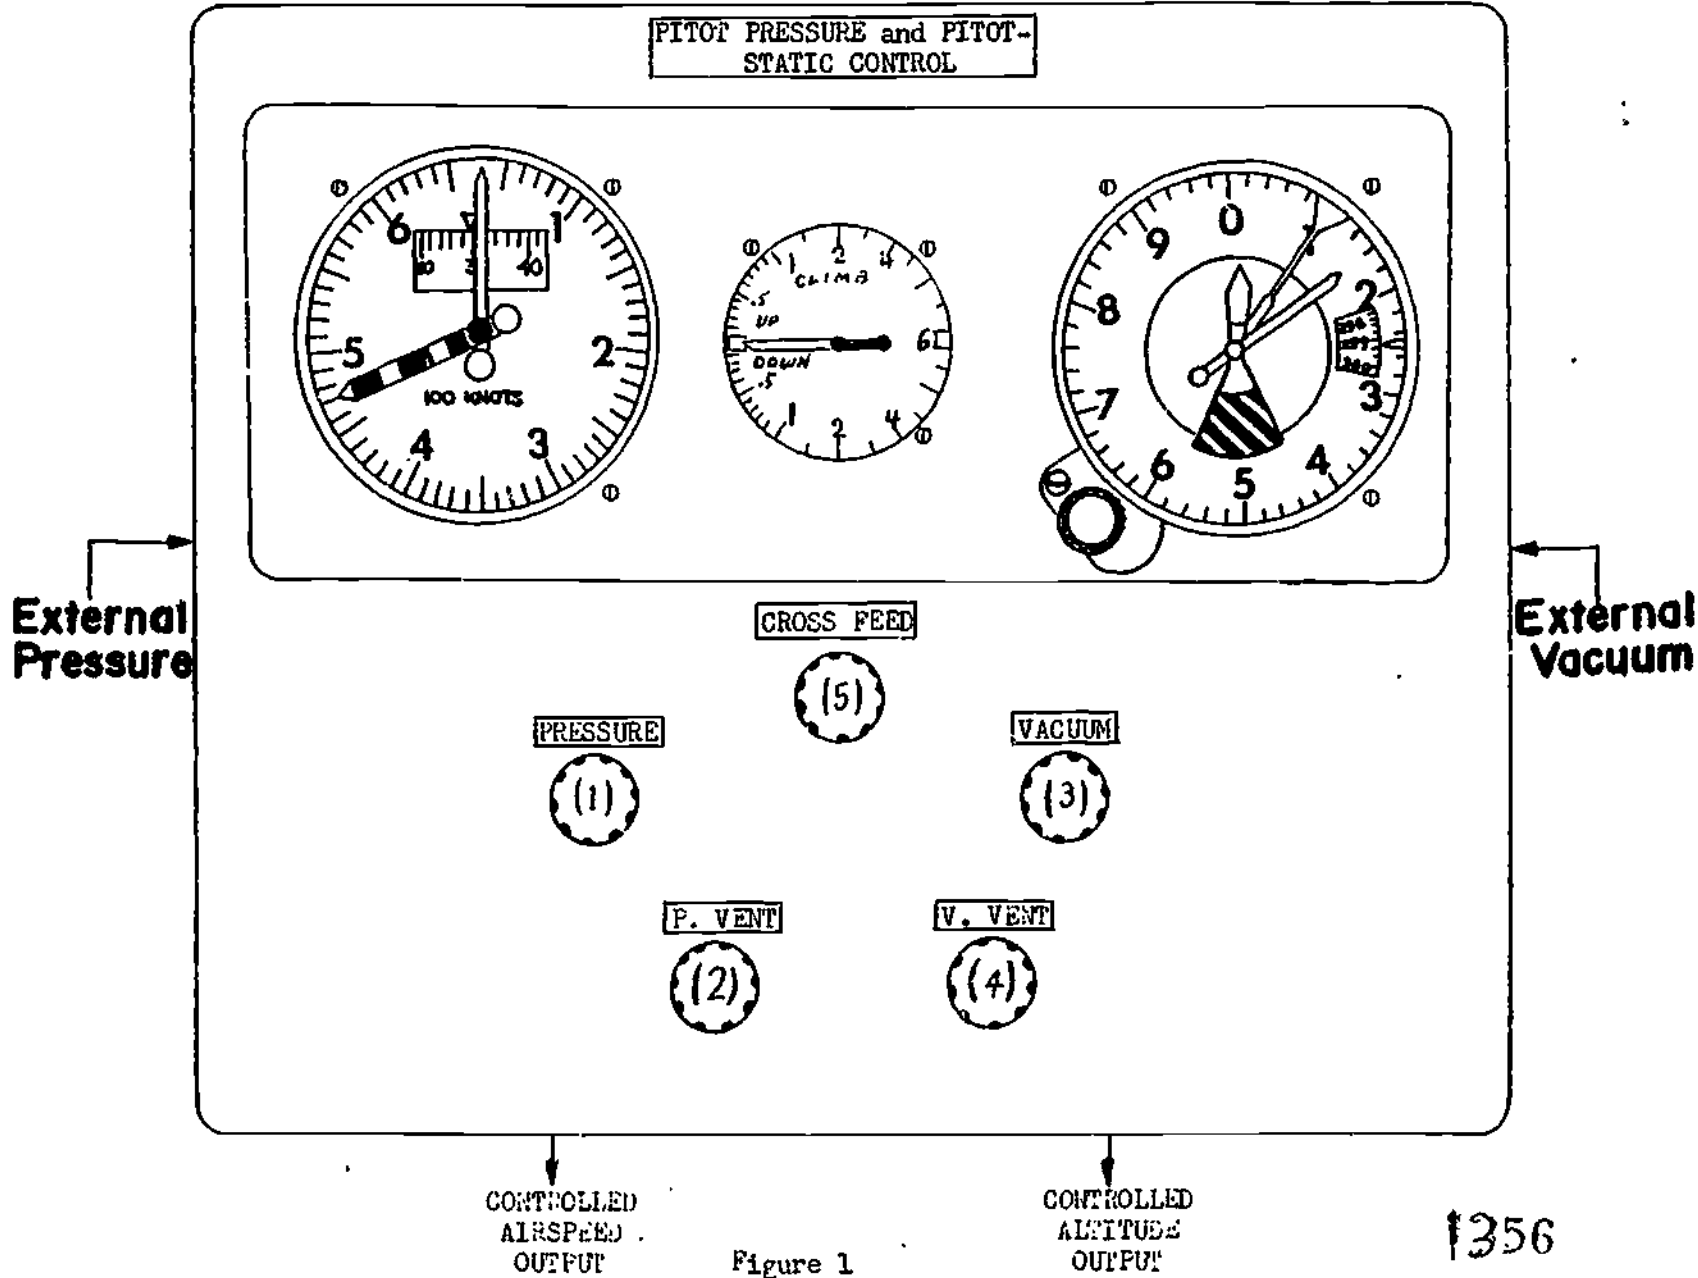

Figure 1
2. Operational characteristics (refer to figure 1):